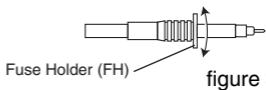

figure 3
Completely unscrew the fuse holder (FH). See figure 3 (page 2)
(Abbildung 3, S. 2)